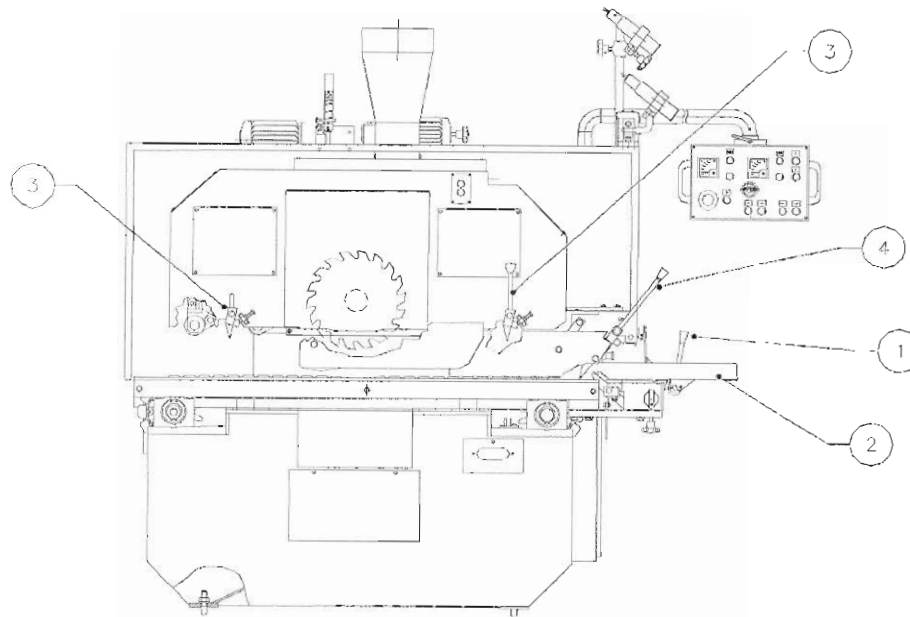

Figure no.11
8 – ADJUSTING THE PARALLEL (See Fig. no. 11)
(See Fig. no. 11)
- 4 - Lift the anti-kickback fingers by pushing the handles Pos.3 and Pos.4 in Fig. no. 11.